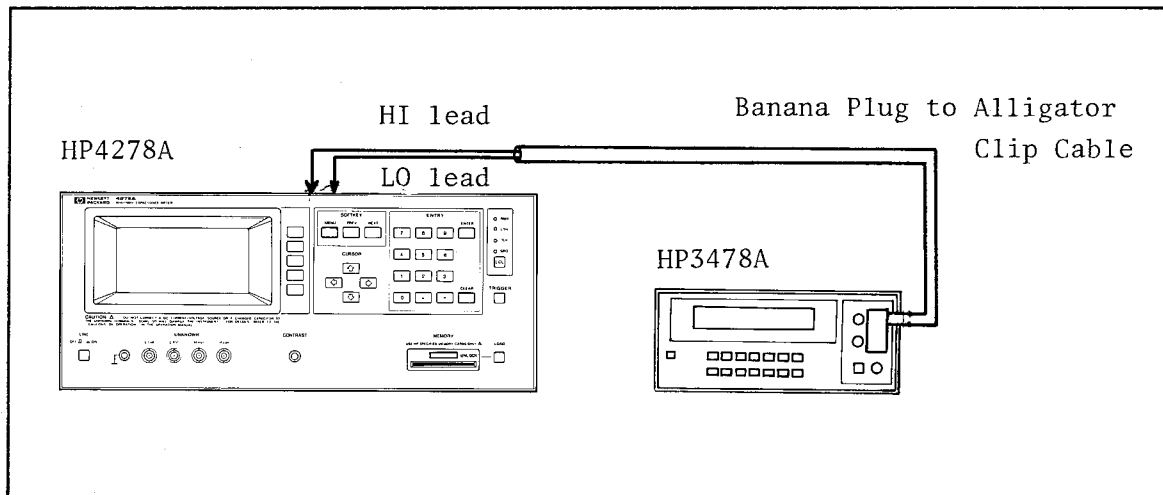

Figure 1-8. 1kHz Transducer Adjustment Setup
2. Connect the **LO** lead of the 3478A to A4TP2 and the **HI** lead to A4TP1 as shown in Figure 1-8.
- Connect the **LO** lead of the 3478A to A4TP7 and the **HI** lead to A4TP3 as shown in Figure 1-8.
1. Connect the **LO** lead of the 3478A to A4TP7 and the **HI** lead to A4TP5 as Figure 1-8.